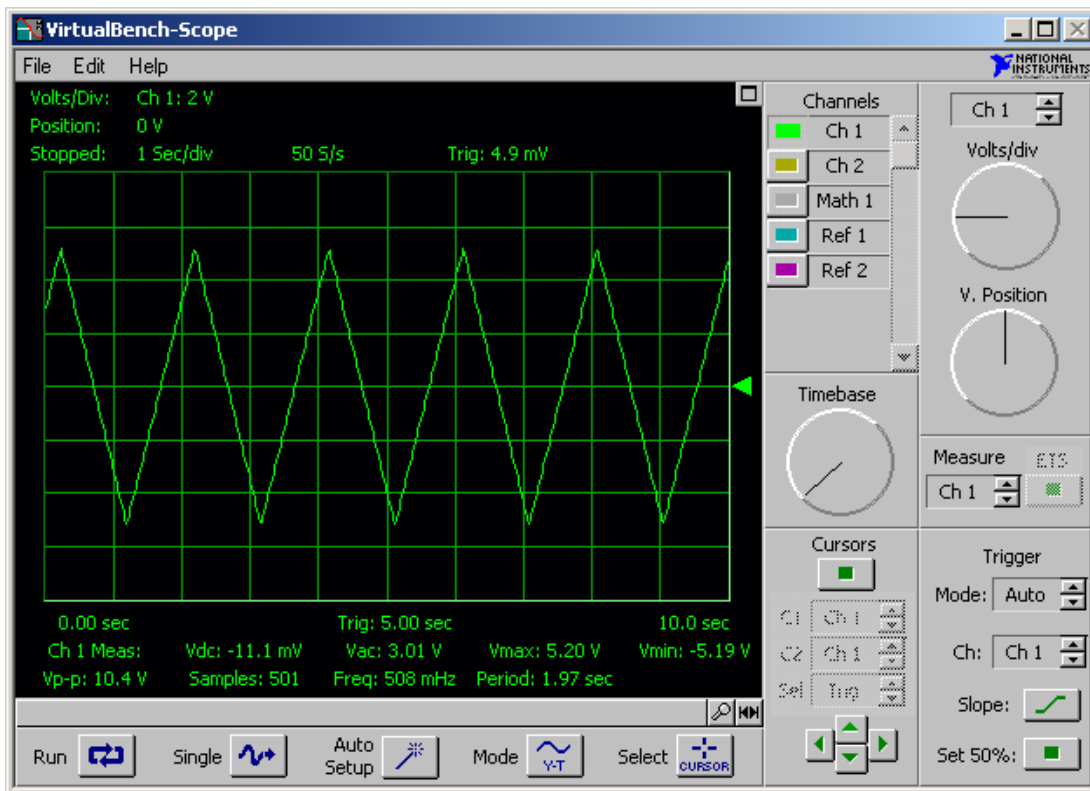
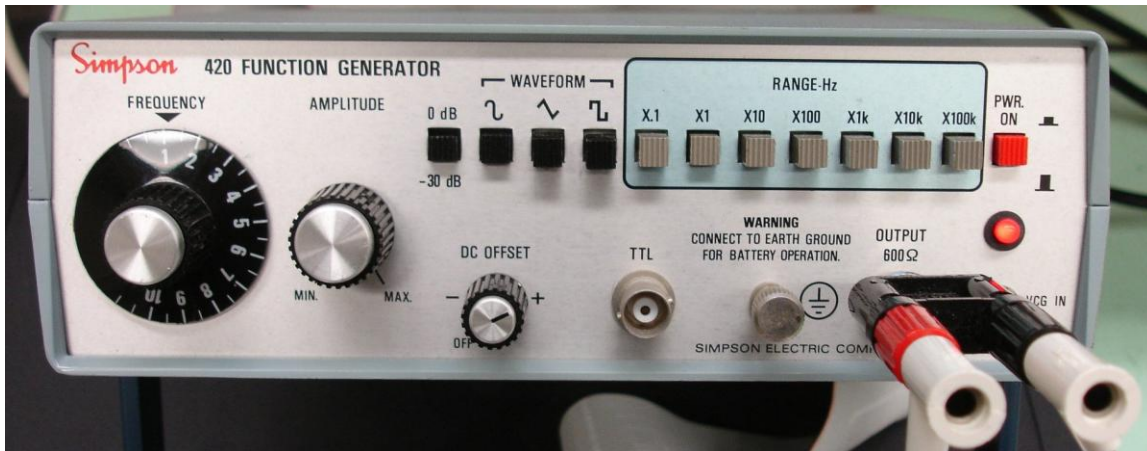
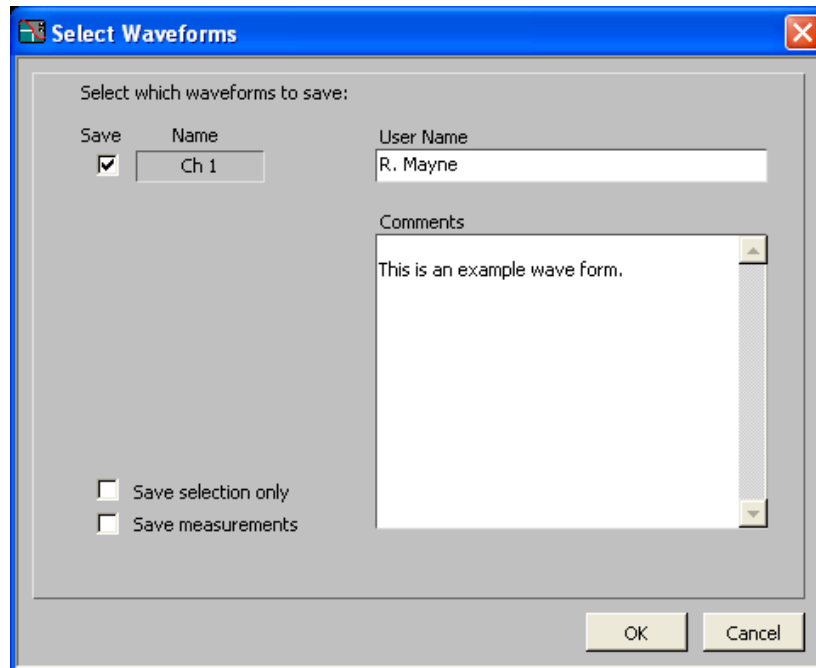

Figure 2. The Standard Display for the Virtual Bench Oscilloscope
Figure 4. Simpson function generator
Figure 5. Select Waveforms window found under the *File - Save Waveforms...* pull down menu
3. When the VirtualScope window appears, resize the Scope window to properly position the graphic display and adjust the size or maximize as desired. Your display should look similar to Figure 2. Click on *Edit* and then *General Settings* to display the dialog window of Figure 3. Begin this experiment by setting the Virtual Bench Scope to have the lowest buffer size possible (500 pts, as shown). Doing this will cause any single run of the Virtual Bench Scope to plot and record 500 data points over the full scale time selected.
4. Set the oscilloscope time display and sampling speed by adjusting the time base (center knob to the right of the plot seen in Figure 2) to ten seconds full scale (one second per division). Look to the upper left just above the plot to verify your setting. It should show “1 Sec/div”. Over the full scale time of 10 seconds, the 500 samples correspond to a
sampling rate of 50 S/s (Figure 2). This indicates that the scope is sampling at 50 samples per second (i.e., the “sampling frequency” is 50 Hz). Time, of course, is displayed on the horizontal axis.
5. Next, set the oscilloscope voltage sensitivity (the vertical axis) by adjusting the knob on the upper right to obtain 2 volts per division (“2V” as shown in Figure 2). Since the full scale range of the ADC (analog to digital converter) is +/- 10 V, setting the volts/division to 2 will nominally display the full range of the ADC.
6. Verify that the other Scope settings are as pictured above in Figure 2. Only **Ch 1** is enabled, the Measure is set to **Ch 1**, the Trigger Mode: **Auto, Ch 1**.
7. The function generator of Figure 4 can be used to produce waveforms of variable frequency and amplitude. Start, as in Figure 2, with a triangle wave, a signal frequency of 0.5 HZ and an amplitude of about +/-5 V (that is 10 volts or 5 vertical divisions from minimum peak to maximum peak). Check that the 0 dB/-30 dB push button is in, the FREQUENCY knob is at 5 and the RANGE Hz X.1 button is selected.
8. When you have a stable display, similar to Figure 2, become familiar with the overall arrangement. Change the triangle wave frequency. Adjust the voltage amplitude up and down. Try square waves and sine waves. Try a 5 volt/division scope setting. Adjust your amplitude to exceed +/- 10 volts. Activate the 0/-30 db push button. Use the scope's zoom in/zoom out buttons on the lower right of the plot to enhance the horizontal (time) resolution of the plot. Try the "Run" and "Single" buttons.
9. Return to the nominal condition described by items 5, 6 and 7 above and indicated in Figure 2. We now want to save a single data record. While the scope is running, click the "Single" button, to store a single data record of the triangular waveform of 500 points. To save this exact data record to a file, click on *File* and then *Save Waveforms* on the drop down menu. You will obtain the dialog window shown in Figure 5. The User Name and Comments fields will appear at the beginning of the saved data file. The file created by the Virtual Scope is a text file readily compatible with Excel. After you click the OK button in the dialog window, you will be prompted for a data file name and storage location. You can store it in My Documents or c:\temp or on your USB flash disk.